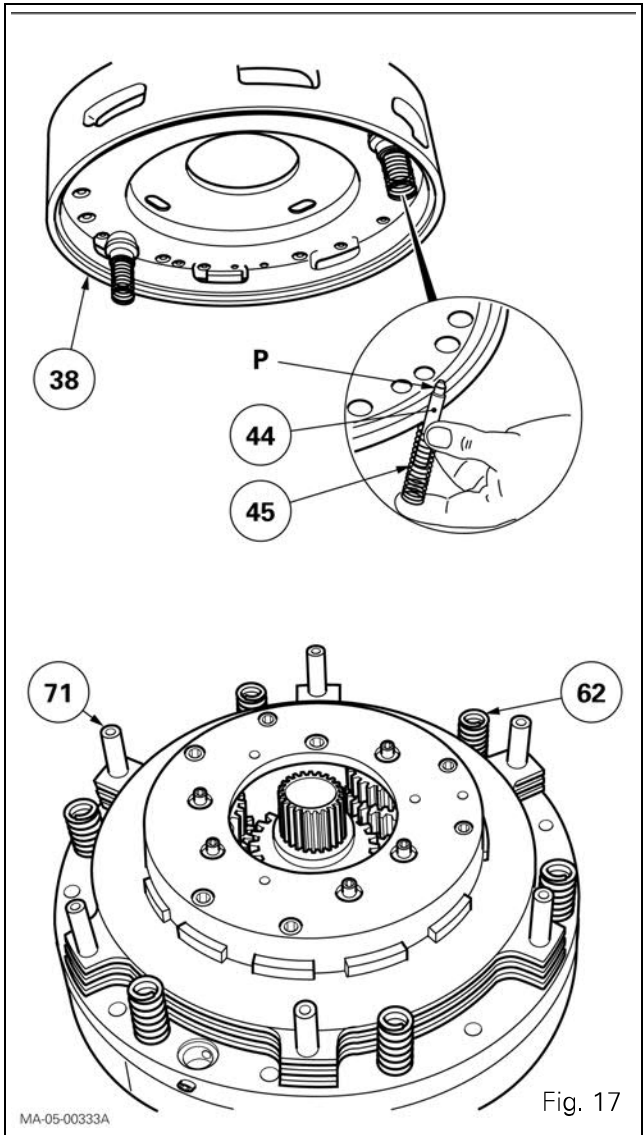

Fig. 17
- 93. Install the pins (71) and the springs (62) (Fig. 17) in their respective location on the input unit.